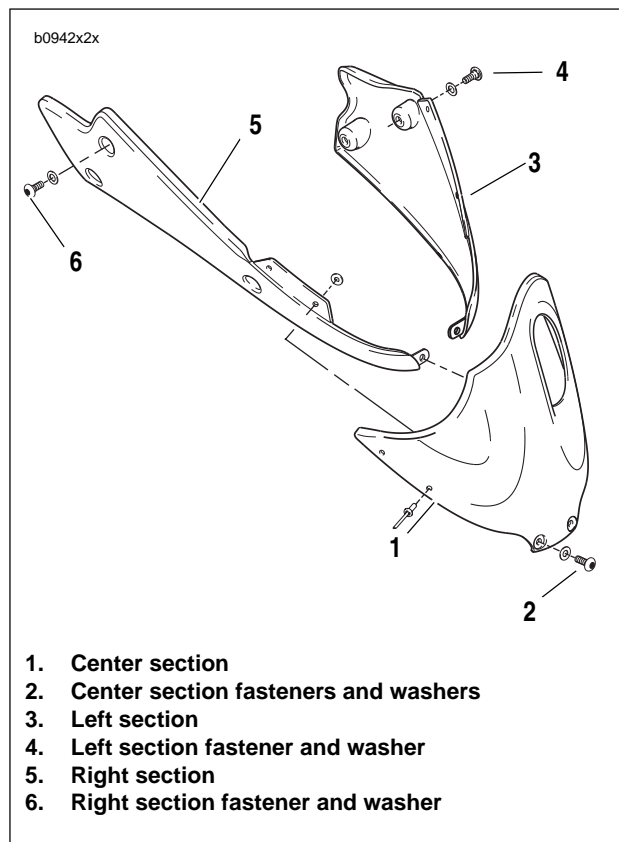

Figure 2-117. Chin Fairing Assembly
3. See Figure 2-117. Remove center section fasteners and washers (2).
4. Remove left section fasteners and washers (4).
5. Remove right section fasteners and washers (6).
1. See Figure 2-117. Position chin fairing (5) and install with right side fasteners and washers (6).
2. Align left section (3) and install with left side fasteners and washers (4).
4. Align center section (1) and install with center section fasteners and washers (2). Use LOCTITE 272 on all fasteners tightening to 36-48 **in-lbs** (4-5 Nm).